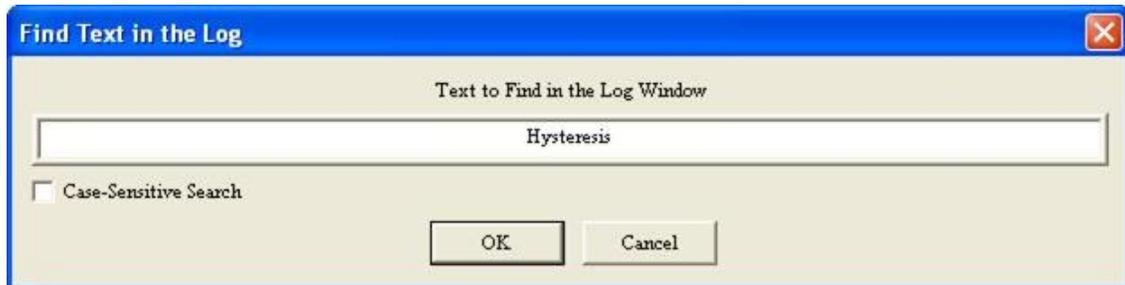
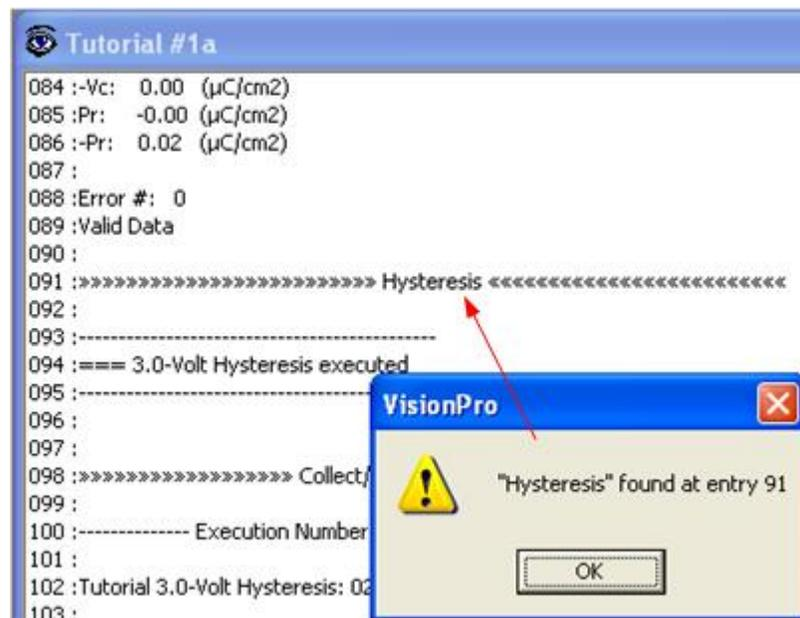

Figure 6 - Search For Text in the Log Window.
Figure 7 - Text Located in the Log Window.
5. Find Text (Ctrl-F) - This feature opens a dialog (**Figure 6**) in which the user enters text to be searched for in the Log window. The search may either be case sensitive, or ignore case. When the text is found, the Log window is scrolled to the page and a dialog appears indicating the text line number (**Figure 7**). This option is disabled if there is no open DataSet.